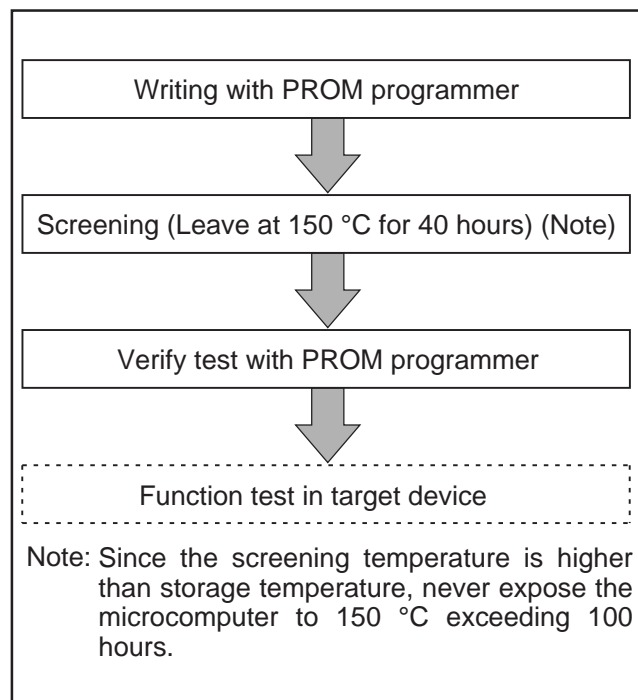

Fig. 52 Flow of writing and test of the product shipped in blank
(2) Notes on handling
- ① A high-voltage is used for writing. Take care that overvoltage is not applied. Take care especially at turning on the power.
- ② For the One Time PROM version shipped in blank, Mitsubishi Electric corp. does not perform PROM writing test and screening in the assembly process and following processes. In order to improve reliability after writing, performing writing and test according to the flow shown in Figure 52 before using is recommended (Products shipped in blank: PROM contents is not written in factory when shipped).